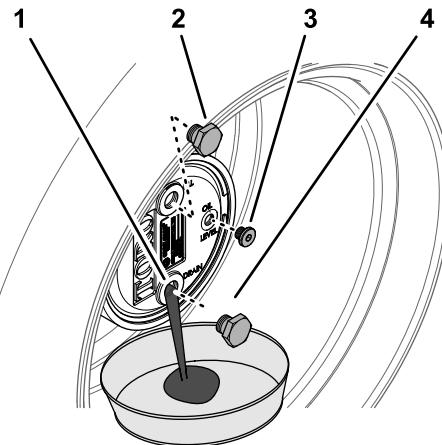

Figure 60
2. Remove the fill plug at the 12 o'clock position and the check plug at the 3 o'clock position (Figure 60).
3. Place a drain pan under the planetary hub, remove the drain plug at the 6 o'clock position, and allow the oil to fully drain (Figure 60).
5. Install the drain plug into the drain hole of the planetary housing (Figure 60).